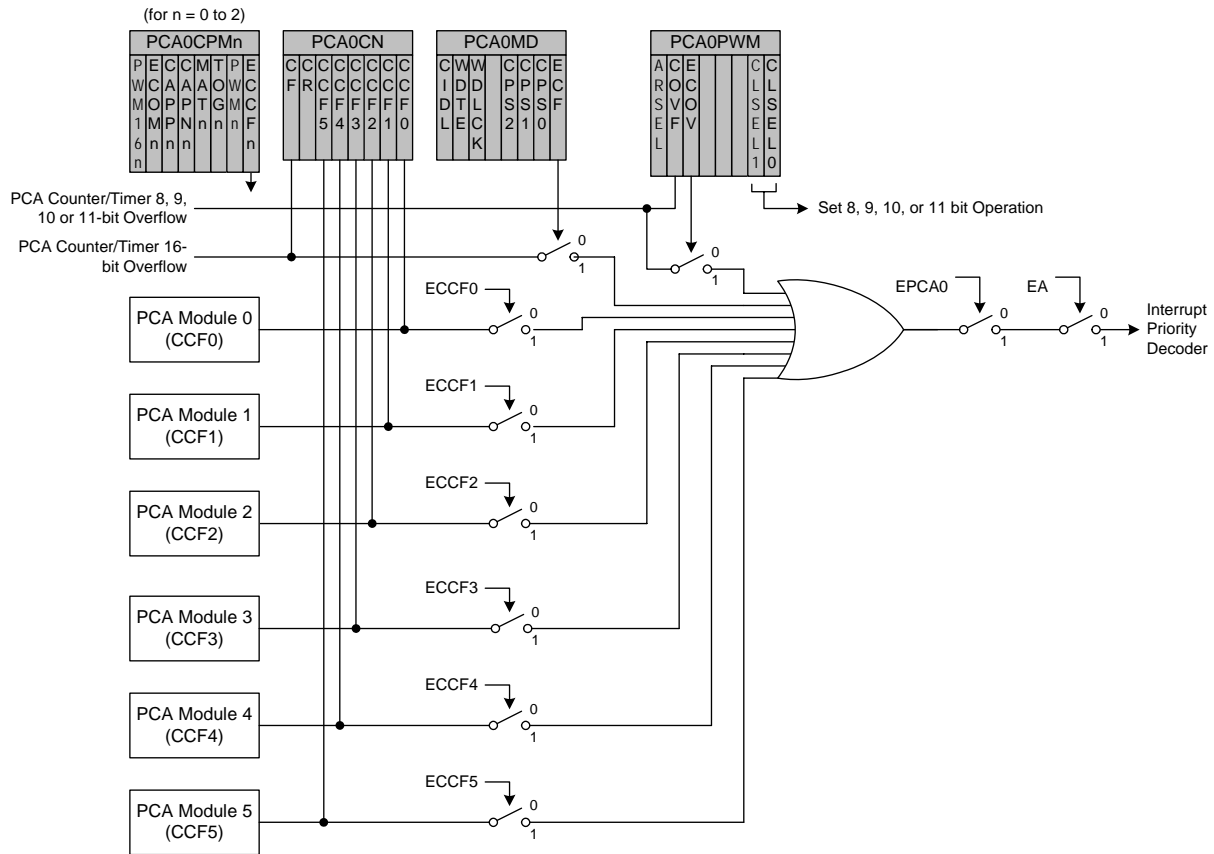

Figure 30.3. PCA Interrupt Block Diagram
Figure 30.3 shows a diagram of the PCA interrupt tree. There are five independent event flags that can be used to generate a PCA0 interrupt. They are as follows: the main PCA counter overflow flag (CF), which is set upon a 16-bit overflow of the PCA0 counter, an intermediate overflow flag (COVF), which can be set on an overflow from the 8th, 9th, 10th, or 11th bit of the PCA0 counter, and the individual flags for each PCA channel (CCF0, CCF1, and CCF2), which are set according to the operation mode of that module. These event flags are always set when the trigger condition occurs. Each of these flags can be individually selected to generate a PCA0 interrupt, using the corresponding interrupt enable flag (ECF for CF, ECOV for COVF, and ECCFn for each CCFn). PCA0 interrupts must be globally enabled before any individual interrupt sources are recognized by the processor. PCA0 interrupts are globally enabled by setting the EA bit and the EPCA0 bit to logic 1.